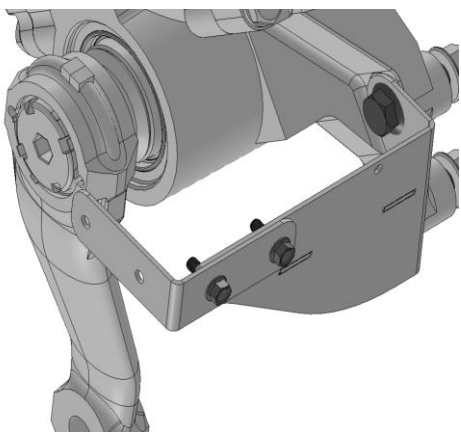

Figure 31. Attaching Steering Bracket.
5. Attach the second Steering Mount Bracket to the first Steering Mount Bracket with 2 5/16" fasteners. As shown in Figure 31. **Torque to 14-17 ft-lbs.**